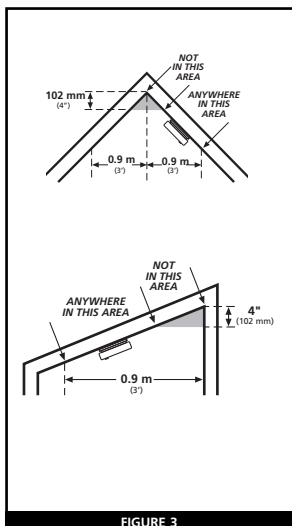

FIGURE 3
- Install Smoke Alarms on sloped, peaked or cathedral ceilings at or within 0.9 m (3 ft) of the highest point (measured horizontally). Smoke alarms in rooms with ceiling slopes greater than .3 m in 2.4 m (1 foot in 8 feet) horizontally shall be located on the high side of the room. A row of detectors shall be spaced and located within 0.9 m (3 ft) of the peak of the ceiling measured horizontally (see Figure 3).
2. After selecting the proper smoke alarm location as described in Section 1, attach the mounting bracket to the ceiling as shown in Figure 3. For wall mounting see Figure 4. Place the mounting plate on the wall; be sure the "A" line is horizontal (parallel to the floor). Use the screws and wall plugs provided to secure the mounting bracket (use 3/16" drill bit for wall plugs).